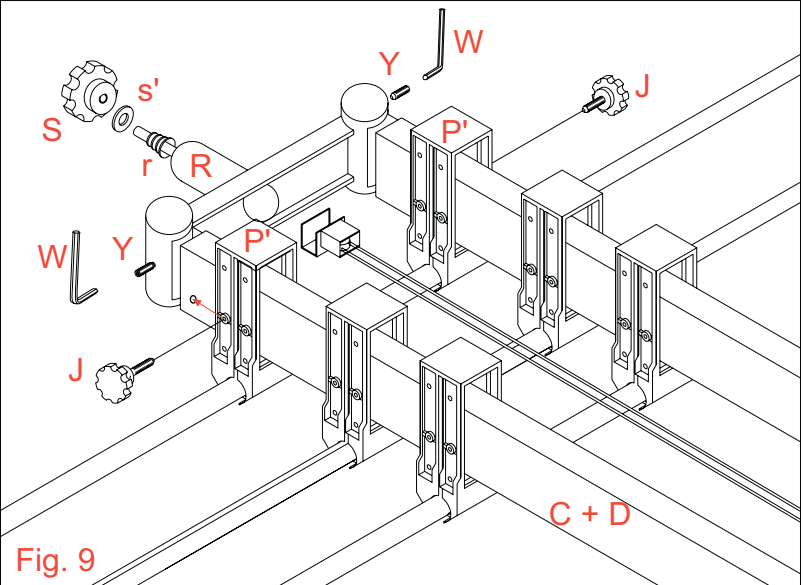

Fig. 9
4. (Fig.9) Join the casting R to the crossbars C+D and fix the screws Y with the Allen key W. Remove the hand wheel S, the washer s' from the casting R but don't remove the spring r.
3. (Fig.9) Push 2 sliders P' against the casting R. Fix 2 sliders P' so that the stem of 2 hand wheels J is inserted into the holes of the crossbars C+D.